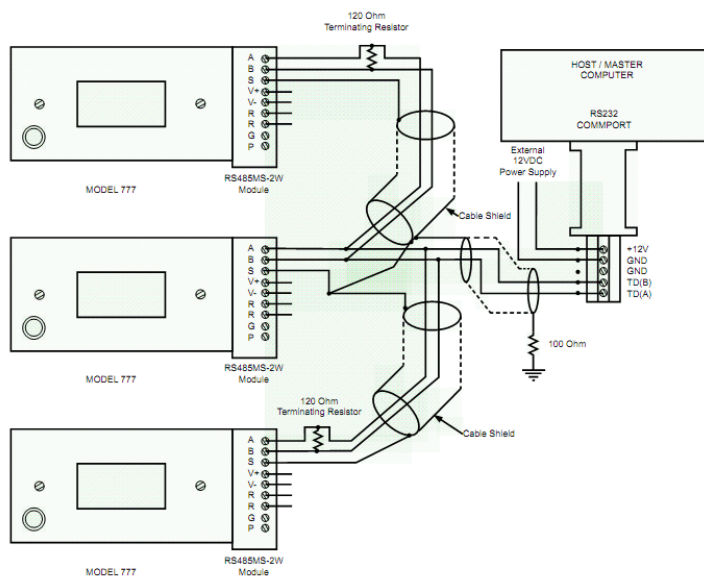

Figure 2: Basic Extended Network Diagram
The converter will work with only a few RS-485 devices attached within a few hundred feet. This configuration normally will not require terminating resistors on the RS-485 network. If you have very many RS-485 devices or the network must span several hundred feet or more, you may need to connect a 12-volt DC external power supply to the converter. Terminating resistors may also be required; one set of 120-ohm resistors should be placed at the two extreme ends of the network across the A and B terminals. Only two terminating resistors are permitted on each twisted pair of wires in the network. If the converter is being used along with 120-ohm terminating resistors, external power will be required (see Figure 2.).
2. Verify the network connections and jumpers with the wiring schematic. If your installation does not use the RS-485 to RS-232 converter and the wiring diagram in figure 2 does not apply; try switching the polarity of the wires. In other words, switch the connections at the A and B terminals of the RS485MS-2W module. If possible, send a START or STOP command from the Modbus Master device to the Model 777, since the START and STOP commands will be executed whether or not the Model 777 returns an acknowledgement.
3. If a PC is used as the Master device, check the serial port on the PC. You will need a voltage meter to measure voltages on the connectors of the converter and the RS485MS-2W module. The voltages are measured in the DC 10 volt range between case ground on the computer or the metal sheath of the DB-9 converter to the RD(B) connection of the converter module or to the (A) or (B) connections on the RS485MS-2W module. Close the COMM port by shutting down the Modbus Master program. Leave the converter module plugged into the COMM port on your computer, but unplug the RS485MS-2W module from the Model 777. The COMM port should not be open so there should be no voltage at connections A and B on the RS485MS-2W module. Measure the voltage with the voltage meter's positive probe touching the (A) terminal of the RS485MS-2W module and the